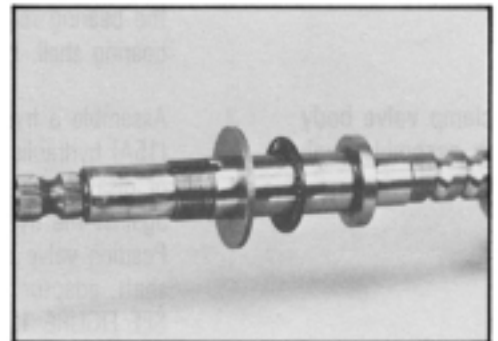

Figure 106
7. Assemble thrust bearing (13) and a thrust washer (14) on the input (serrated) end of worm shaft (23) and against worm shaft shoulder. SEE FIGURE 106.